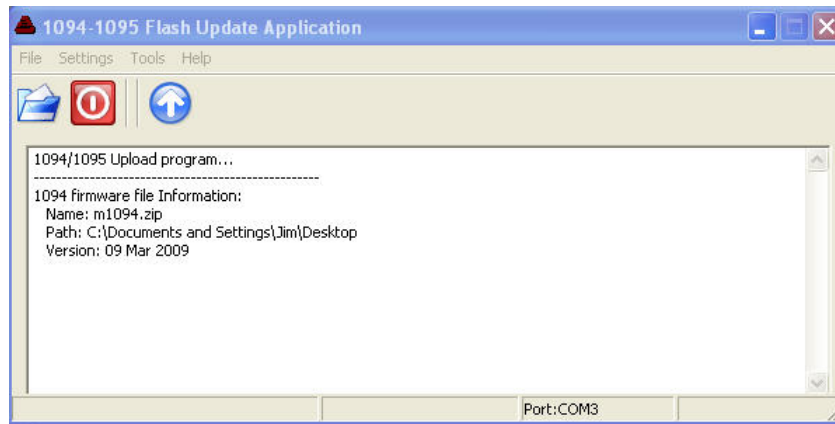

Figure 6.14: 1094B Loader with Opened Firmware File
3. Locate the new 1094B firmware zip file (the loader automatically extracts the file) and click the **Open** button. The loader window should indicate some basic information about the file, including the firmware version by date. See Figure 6.14.